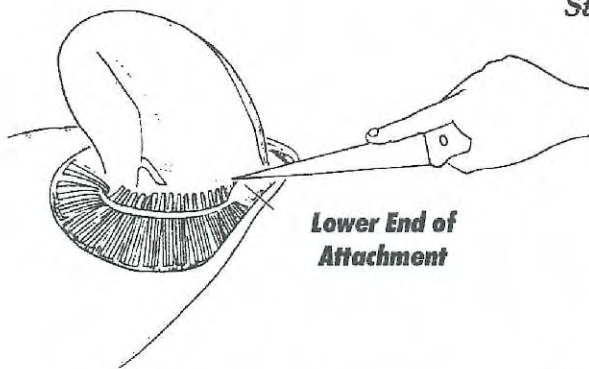

Figure 13. Cut lower end of gill-to-head attachment.
- Step 5** Cut the lower end of the gill-to-head attachment and not the entire connection of the lower body to the underside of the mouth (Figure 13). If you cut the entire connection, unequal pressure exerted by muscle stiffening will lower the quality of the fish on two ways. First, it will cause the head to lift up and bend backwards, distorting the shape and appearance of the fish. Second, this unequal pressure will cause tearing and gaping of fillets.